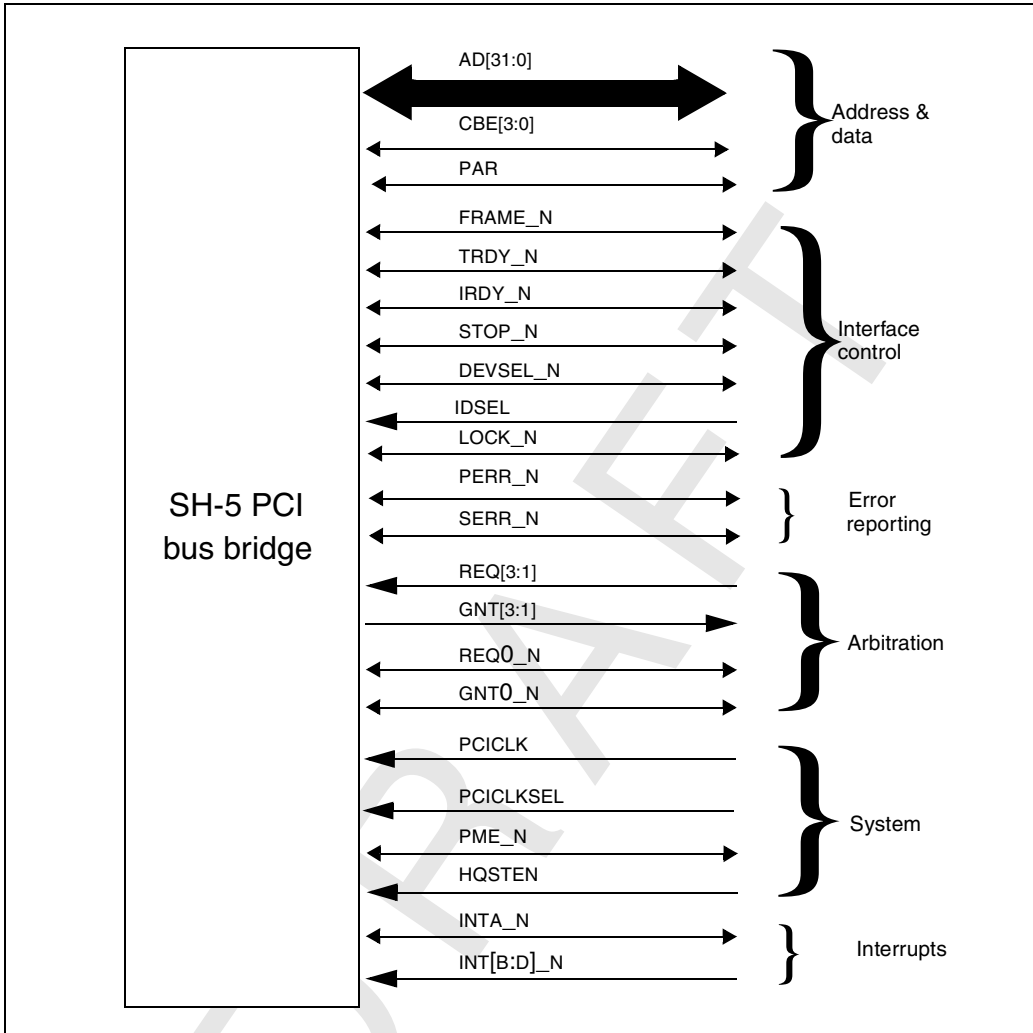

Figure 3 PCI bus pin list
*Figure 3* illustrates the external signals used by the SH-5 interface. A complete functional description of the pin list is given in Section 3.9 on page 219.